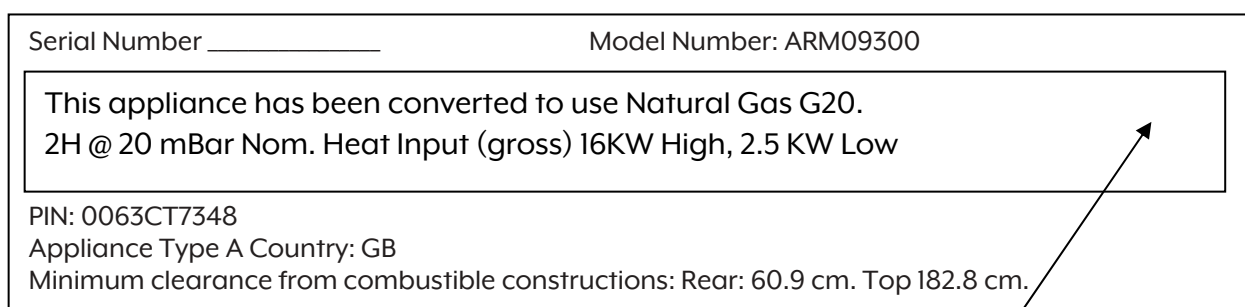

Figure 13
10. Stick the conversion label on the rating plate as shown in Figure 13.